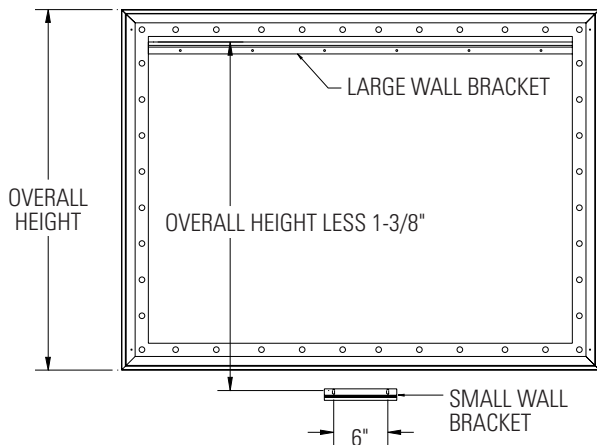

FIGURE 3
2. To install the lower wall bracket, you must measure the overall height of the screen frame and subtract 1-3/8". Using that dimension, measure down from the top edge of the wall bracket and mark the wall for two screw holes. The holes should be centered within the frame and 6" apart. Refer to Figure 3.